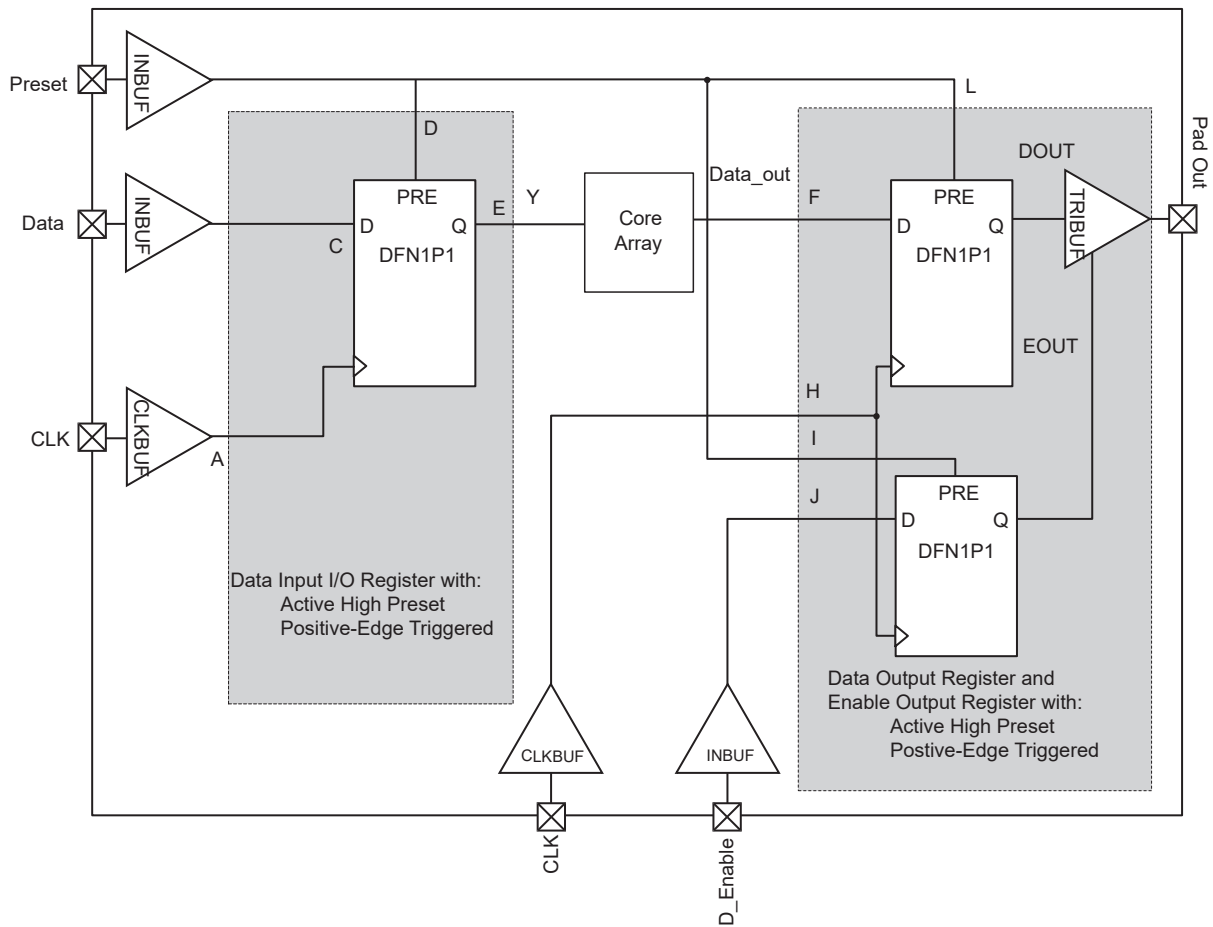

Figure 2-12 • Timing Model of Registered I/O Buffers with Asynchronous Preset
*Note:* \*See Figure 2-12 on page 2-41 for more information.